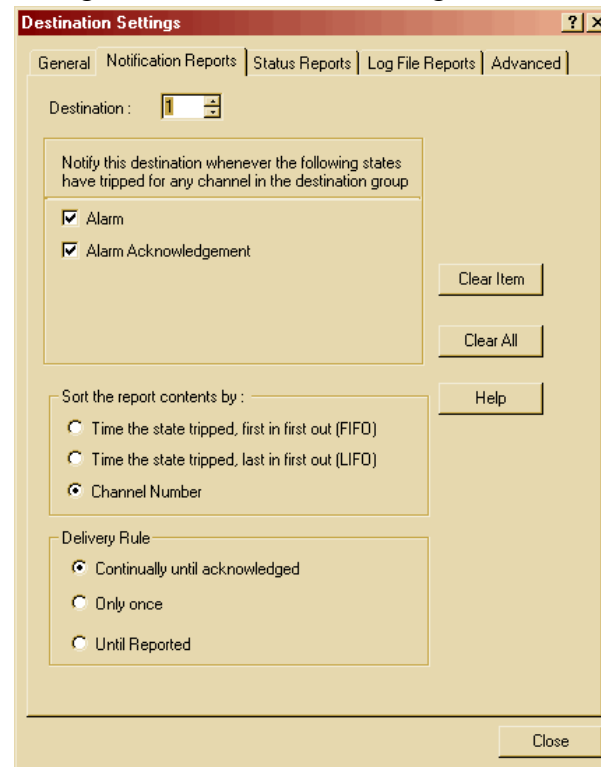

Figure 20: Destination Settings, Notification Reports
18. Select the **Notification Reports** tab for Destination #1 and configure it as shown in Figure 20.